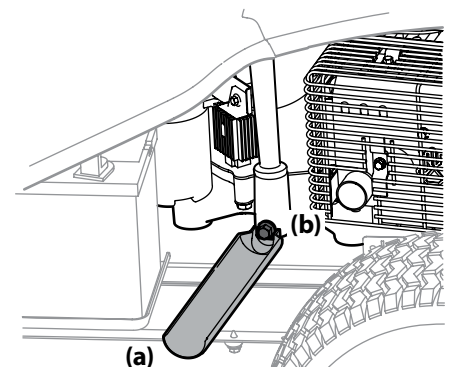

Figure 4-1
- Snap the small end of oil drain sleeve (a) onto the space provided around the oil drain plug (b). See Figure 4-1.